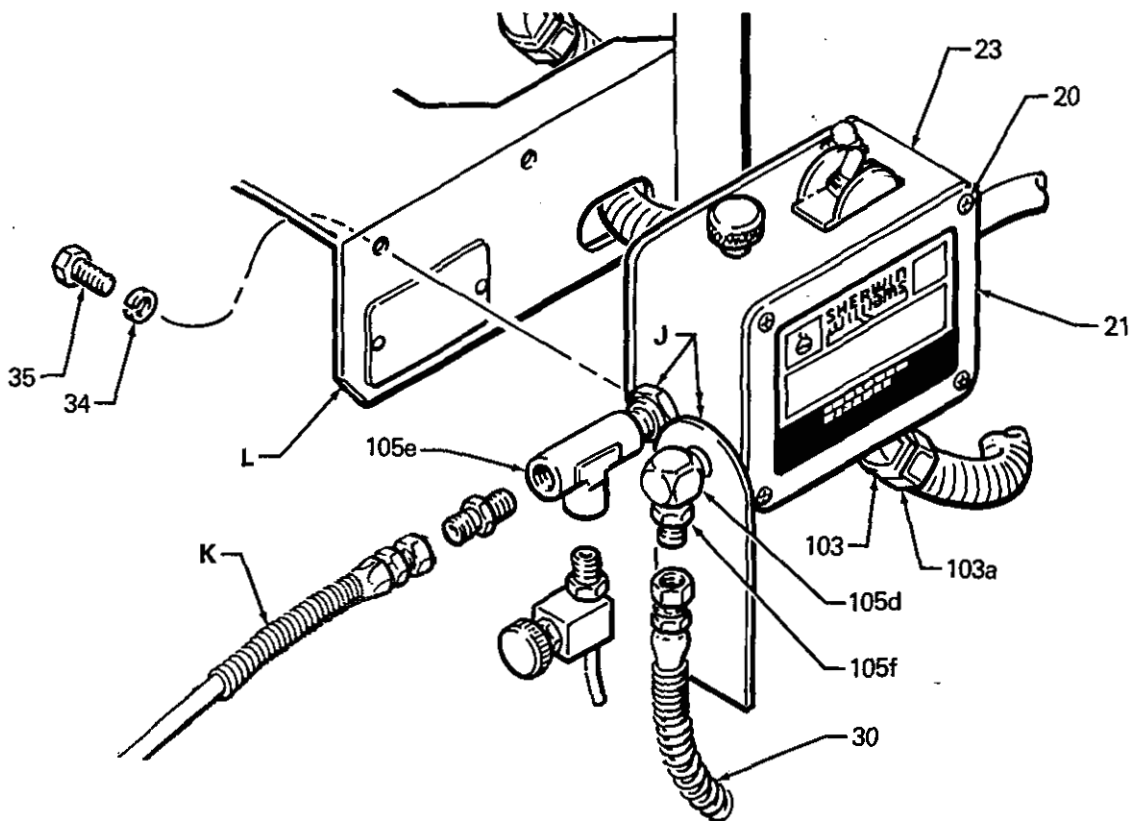

Fig 19
**REMOVING and REPLACING PRESSURE CONTROL** (See Figure 19 and Parts Drawing on page 27)
Disconnect the fluid hoses (30 & K) from the pressure control. See Fig 19.
Remove the screws (35) and lockwashers (34). Remove the pressure control (23) from the frame (L). See Fig 19.